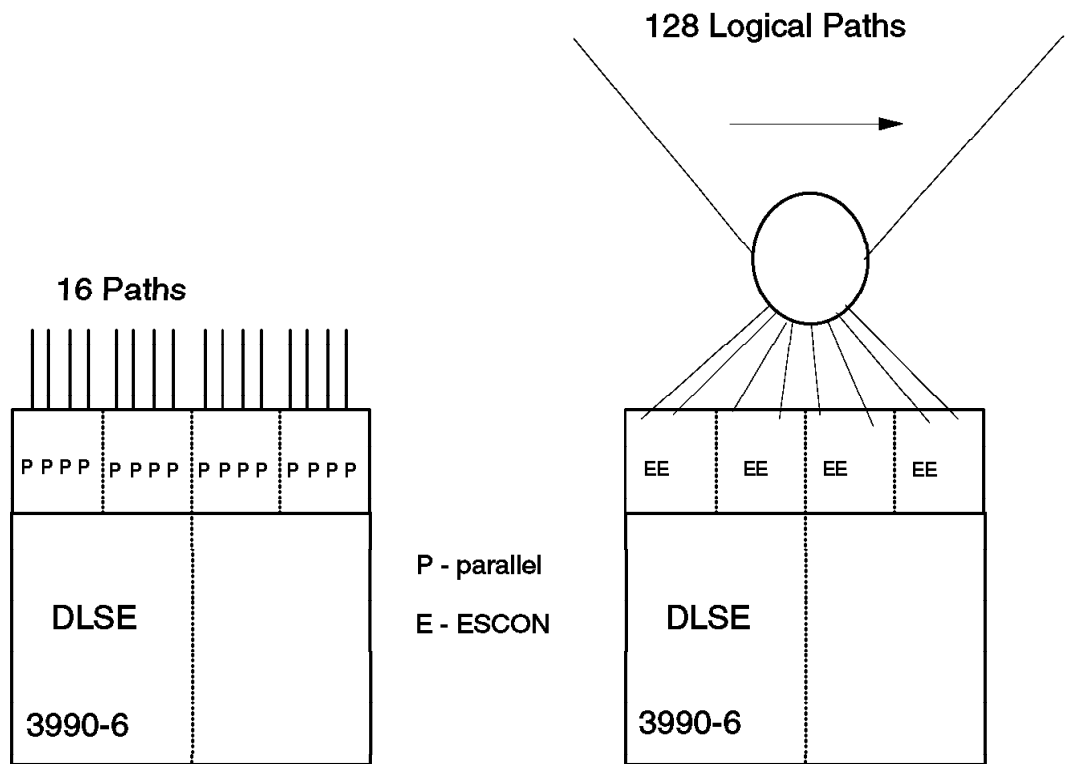

Figure 62. IBM 3990 Model 6 Logical Paths
- The maximum number of logical paths available in a cluster is eight for 3990 Model 2 and Model 3. For a 3990 Model 6 with two ESCON adapters in each cluster, each adapter supports 32 logical paths giving a total of 64 logical paths per cluster and 128 logical paths for the entire 3990 Model 6. Figure 62 on page 138 shows two 3990 Model 6 controllers. The left one has 16 parallel interfaces, providing 16 logical paths, the right one has four ESCON adapters providing 128 logical paths.